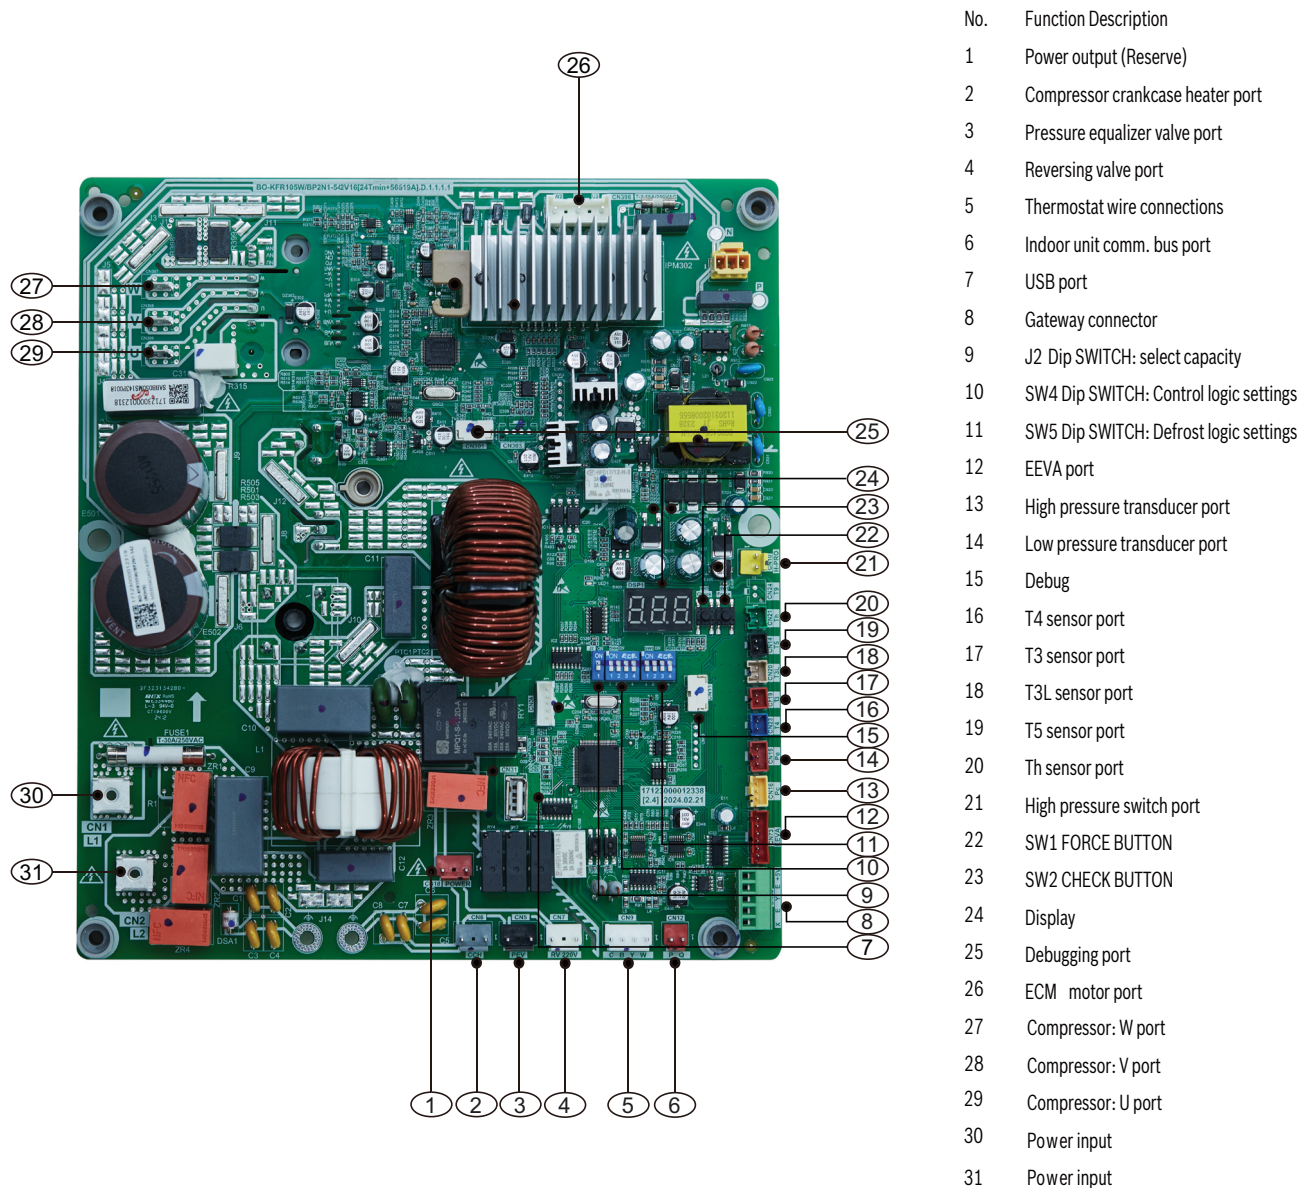

Figure 72
- To display system parameters, press the "Check" button to index through the series of parameters available. The first time you press the "Check" button, it will display the sequence, and after 1 second it will display the value of the parameter. If you press the "Check" button again, it will display the next sequence. Refer to Figure 72 and 73 for check button location on the control board.